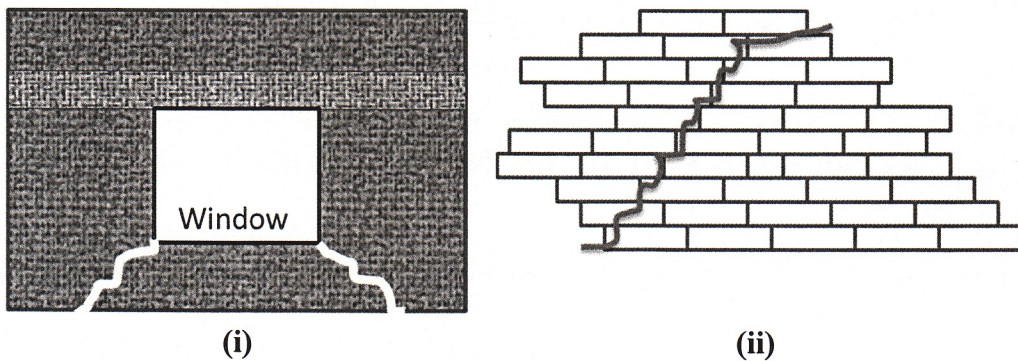

Figure 5
- b) Write short notes on: (i) Primer, (ii) Adhesive, (iii) FRP (6)
- c) Narrate the repair methods of the cracks shown in the brick walls in *Figure 5*. (6)